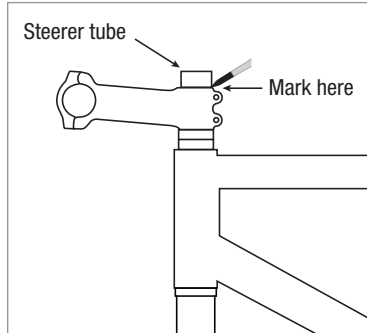

Figure 4
7. Use a fine tip felt marker to mark the steerer tube along the top edge of the stem (Fig. 4).